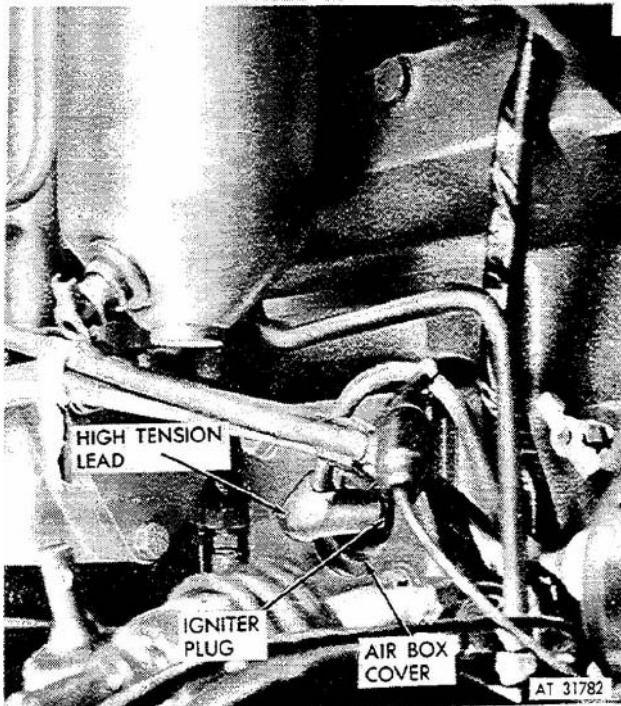

Figure 2-12. Igniter plug, removal and installation.
(1) Open engine cover (refer to TM 9-2320-242-10).
(2) Remove high tension lead (fig 2-12) from igniter plug and unscrew plug from air box cover.